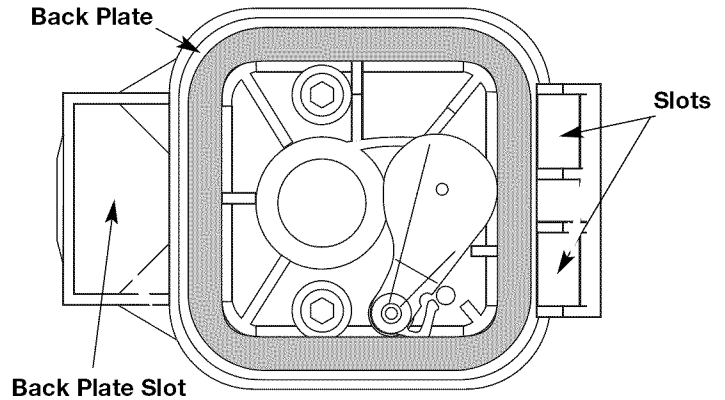

Fig. 25
6. Replace the filter (Fig. 25).
7. Reinstall the air filter cover. Position the hooks on the right side of the air filter cover into the slots at the right side of the back plate (Fig. 25).